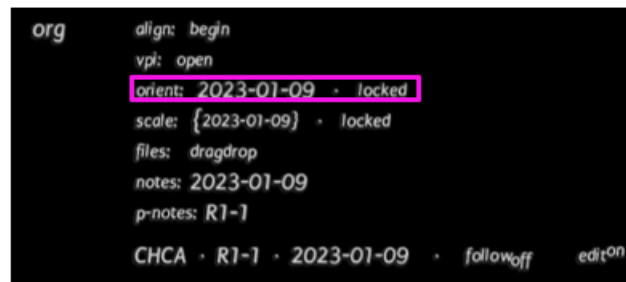

Figure 95. Seeing `locked` as shown above signifies the orientation setup is complete.
5. Turn on `edit` under the Org menu and `locked` will now appear next to `orient` (Figure 95). This confirms that the orientation for the layer has been set. Be sure to turn `edit` off when finished!